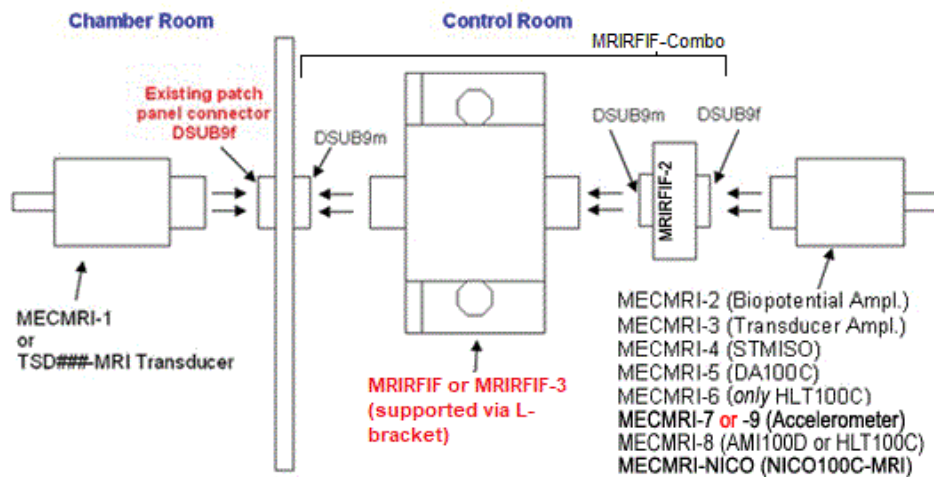

Figure 3: Cabling sequence using existing patch panel connector
- See Figures 3, 4, 5 (Installation method B) for details.